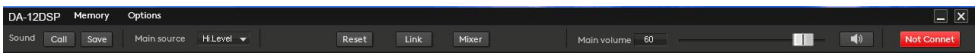

Figure 3.4.7
Step 4: After data transfer is completed, the machine load preset scene is complete, but you can see the upper left corner of the software will appear as the currently running preset scene the name of (Figure 3.4.7 "33445566 "but once in the console interface parameters changed, it will become the" Custom "in the name, because this time the machine is running and the data has been loaded set of data that is different).